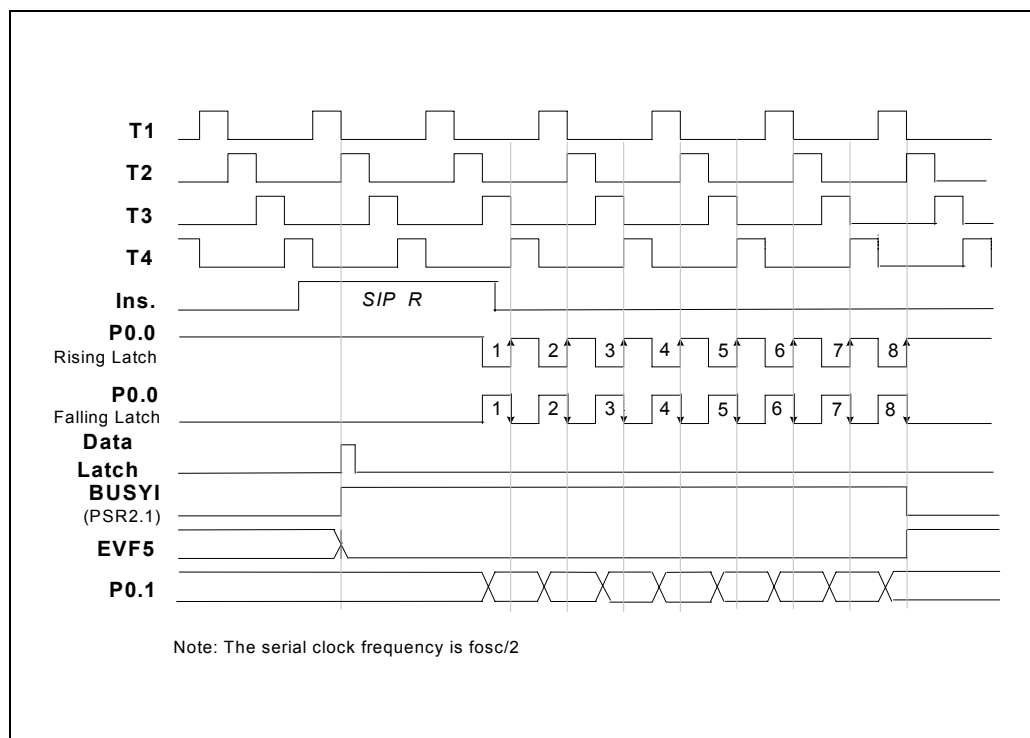

Figure 5-12. Timing of the Serial Input Function (SIP R)
- (1) **When in the first time the SIP R instruction is executed, the data will be loaded to the ACC and RAM from the serial input buffer. But this data is not meaningful, it is used to enable serial port.** There are two methods to get the serial data, one is interrupt and the other is polling. When enable the serial input, the bit 1 of port status register 2 (PRS2) will automatically be set to "1" ($BUSY_i = 1$). Then the P0.0 pin will send out 8 clocks or accept 8 clocks from external device and the data from the P0.1 pin will be loaded to SIB buffer at the rising or falling edge of the P0.0 pin. After the 8 clocks have been sent, $BUSY_i$ will be reset to "0" and EVF.5 will be set to "1." At this time, if IEF.5 has been set ($IEF.5 = 1$), an interrupt is executed then the SIP R instruction can get the correct data from the serial input buffer (SIB), **low nibble of SIB moves to ACC register and the high nibble moves to RAM**; if HEF.5 has been set ($HEF.5 = 1$), the hold state is terminated. The polling method is to check the status of PSR2.1 ($BUSY_i$) to know whether the serial input process is completed or not. If a serial input process is not completed, but the SIP R instruction is executed again, the data will be lost. The timing is shown in Figure 5-12.